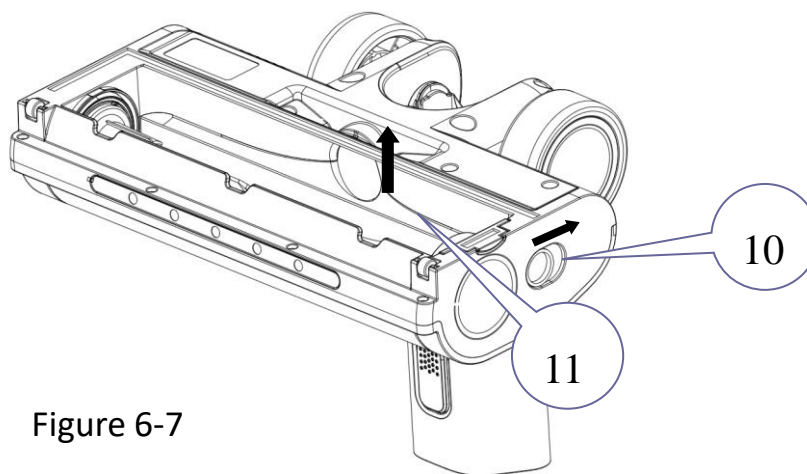

Figure 6-7
6.5 To remove the power nozzle roller, press the brush roll release button (No.10) and then pull the brush roll (No.11) out from the top side. Reverse the steps to reinstall the brush roll. See Figure 6-7.